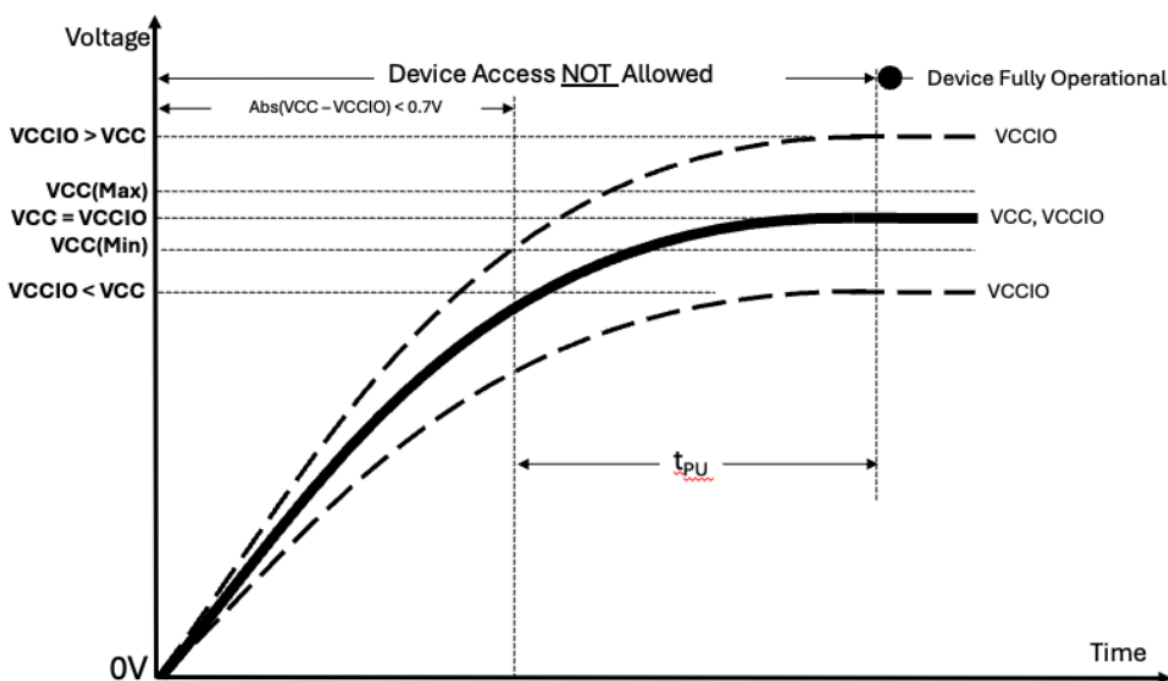

Figure 6: Power-Up Behavior
- The device must not be selected at power-up (a 10KΩ pull-up Resistor to VCCIO on CS# is recommended). Then a further delay of t_{PU} (Figure 6) until VCC reaches VCC(minimum).
- During Power-up, recovering from power loss or brownout, a delay of t_{PU} is required before normal operation commences (Figure 6).